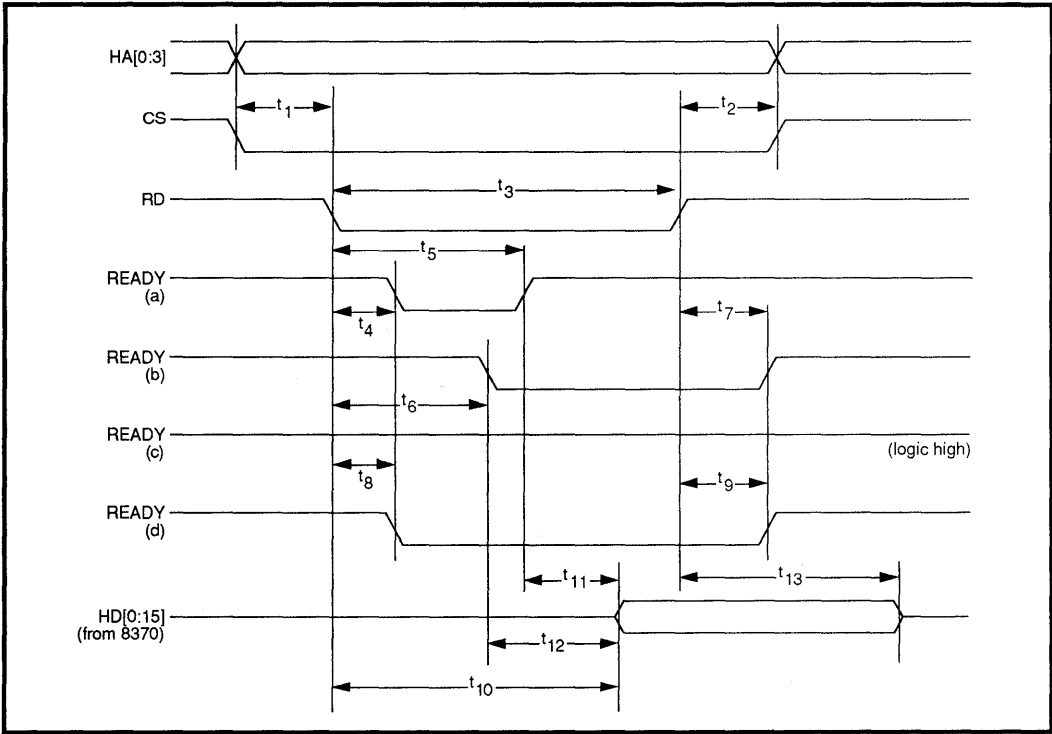
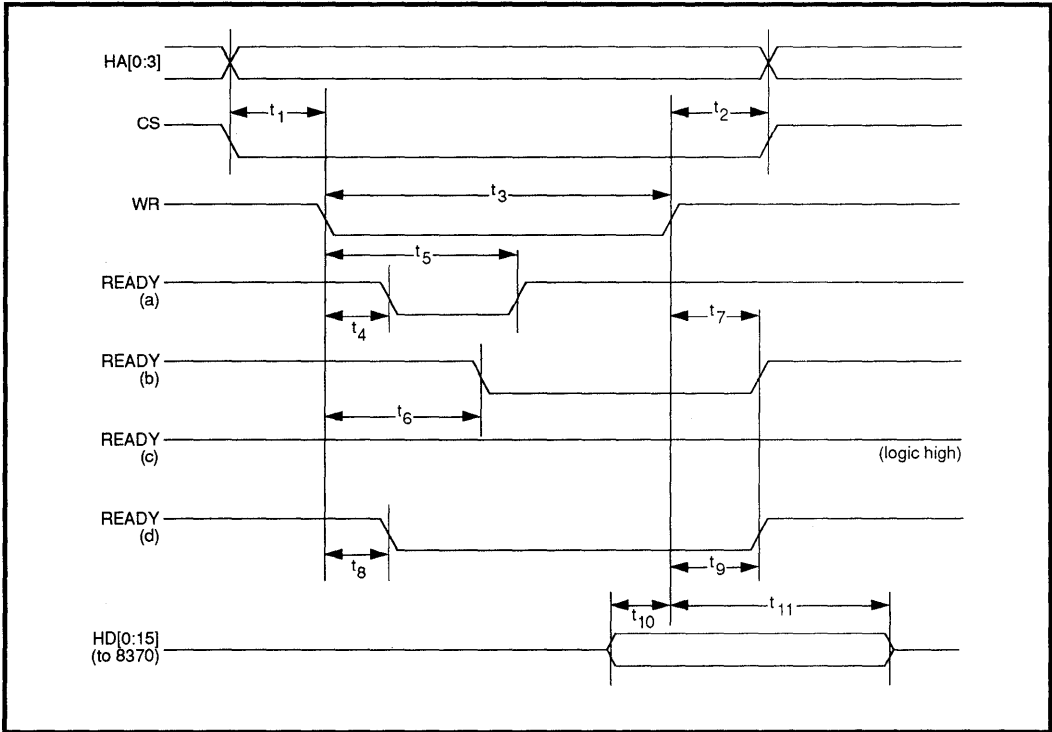

FIGURE 6: Read Cycle, Generic Bus Mode (Refer to Table 9)
FIGURE 7: Write Cycle, Generic Bus Mode (Refer to Table 10)
**TABLE 5: Read Cycle, Generic Bus Mode (Refer to Figure 6)**
**TABLE 6: Write Cycle, Generic Bus Mode (Refer to Figure 7)**
- Note: (1) An asserted EOP terminates any further DMREQ after DMACK returns high.
(2) The DMA cycle uses DMACK as the chip select. DMACK overrides CS and HA[0:3] if they are both asserted at the same time, forcing selection of the Buffer Memory Port as in a DMA cycle.
(3) For READY timing and HD[0:15] timing, see Figure 6,  $t_4-t_{13}$ , and Figure 7,  $t_4-t_{11}$ .
- Note: (1) DMREQ goes low during the next-to-last transfer of the burst. DMACK should not go high until after the  $\overline{RD}$  or  $\overline{WR}$  pulse of the last transfer cycle goes high
(2) The DMA cycle uses  $\overline{DMACK}$  as the chip select.  $\overline{DMACK}$  overrides  $\overline{CS}$  and HA[0:3] if they are both asserted at the same time, forcing selection of the Buffer Memory Port as in a DMA cycle.